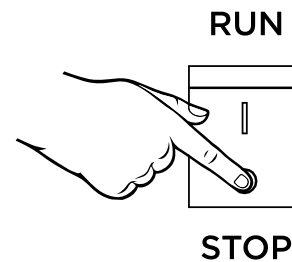

Figure 16 - Engine Switch - STOP
5. Position the engine control switch to **STOP** (see Figure 16).